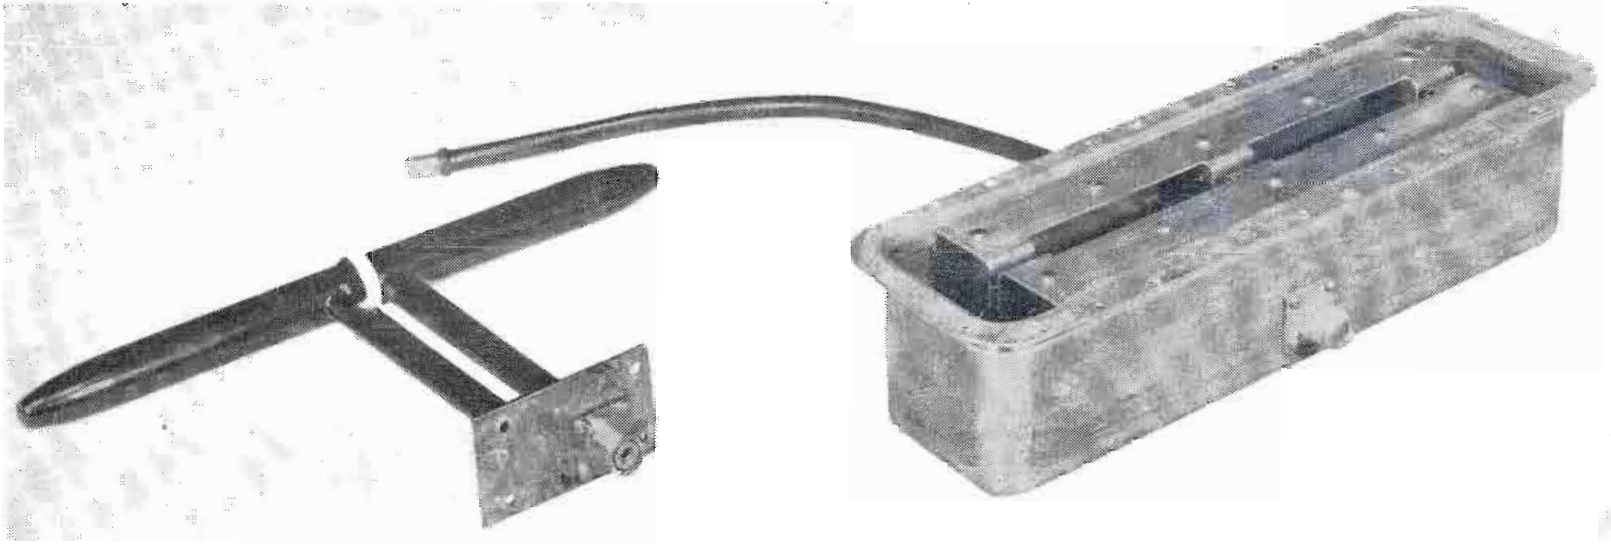

Fig. 1: Flush-mounted slot antenna shown at right may be used singly or in pairs to replace external dipole at left furnished with equipment
**I**N 1945 the Bureau of Aeronautics of the Navy Dept. accelerated an aircraft antenna development program whose ultimate goal was completely flush-mounted antenna systems where practicable for naval aircraft. One of the results of this flush antenna program was the development of a linear slot antenna system for the type AN/APN-1 FM absolute altimeter.1 Used singly or in pairs as an array (double slots), these antennas can replace the standard external dipole furnished with the equipment. The dipole and the type of slot antennas discussed in this report are shown in Fig. 1.